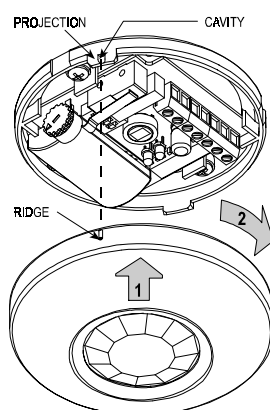

Figure 6. Remounting the Cover
- Mount the front cover in place: line up the ridge on the cover with the cavity in one of the two projections on the base circumference (Fig 6). Fit the cover over the base, and rotate the cover clockwise until it stops.